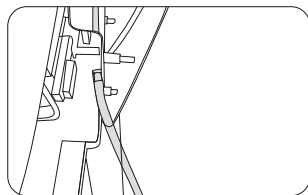

Figure 12
- Unplug the joint of upper armrest air pipe (figure 12), the armrest removed completely.